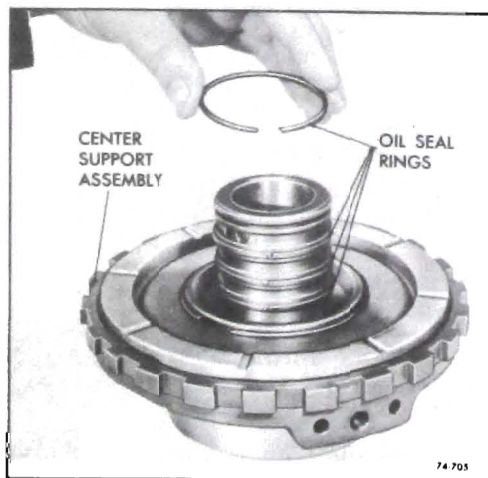

Figure 76-723
7. Install four (4) hook type oil rings. See Figure 76-723.